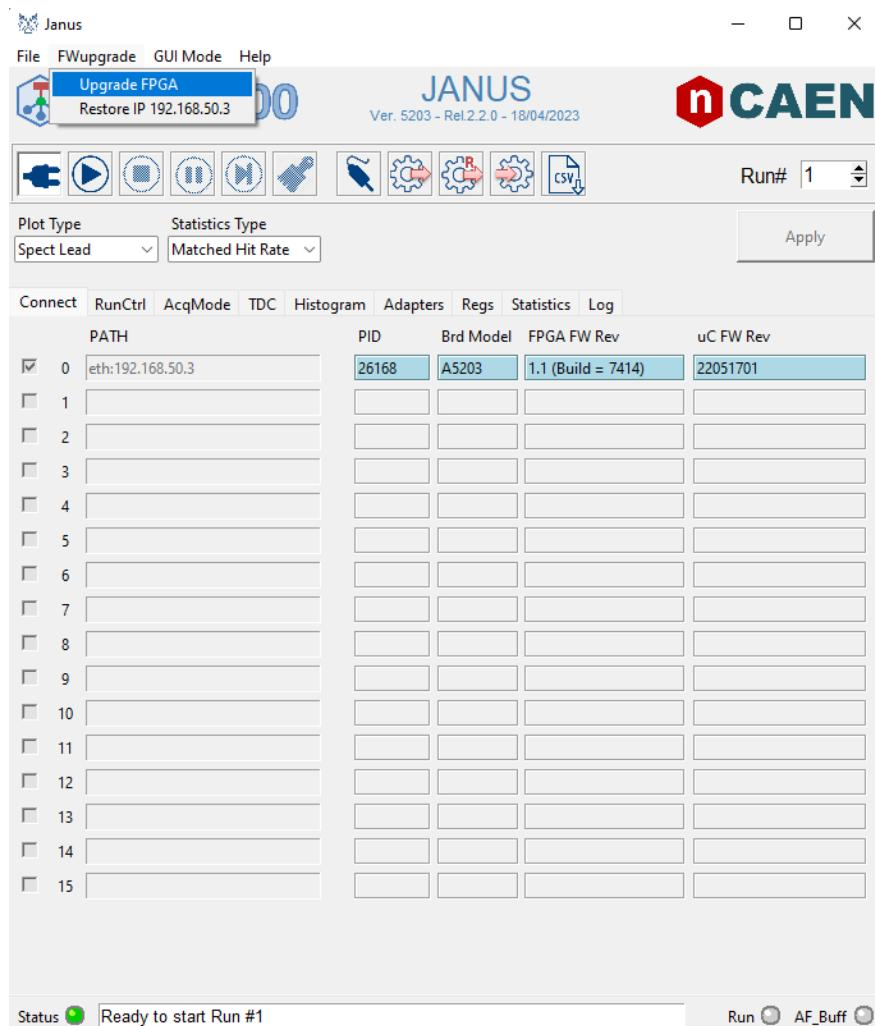
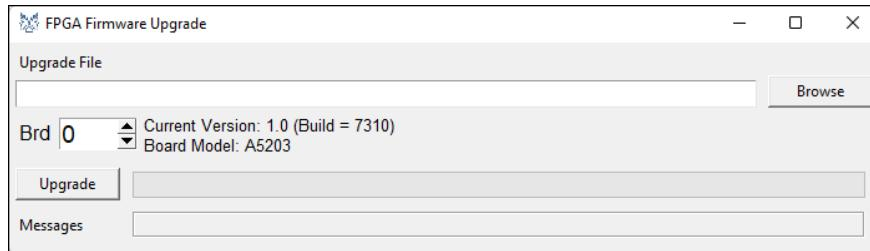

Fig. 12.1: A5203 board connected with the old version of FPGA firmware loaded.
Fig. 12.2: FPGA Firmware Upgrade window.
2. Click on the "FWupgrade" drop-down menu that is present on the Janus 5203 Menu Bar (see Fig. 12.1). The "Upgrade FPGA" option is visualized. By clicking on it, a window similar to that reported in Fig. 12.2 is opened.